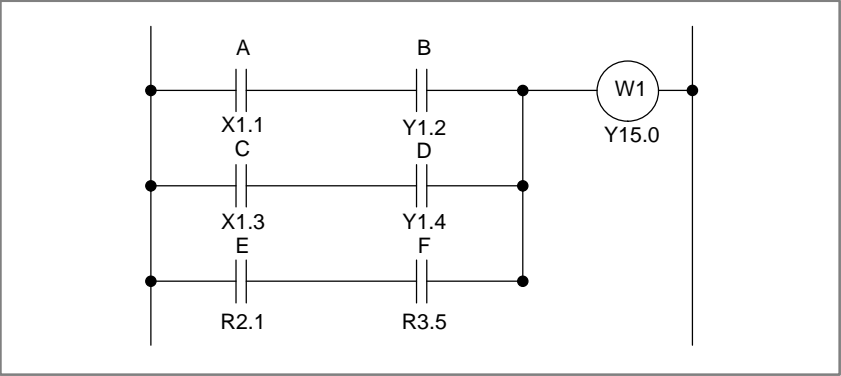

Fig. 4.1.9 Ladder diagram
(1) Format
- (2) Stacks the intermediate results of a logical operations. After shifting the stack register left one bit, sets a signal at a specified address to ST0.
- (3) Is used when the signal to be specified is contact A (—|—).
- (4) See Fig. 4.1.9 and Table 4.1.9 for an example of using the RD.STK instruction.
Table 4.1.9 Coding for Fig. 4.1.9
- (2) Induces a logical sum from the operation results in ST0 and in ST1, sets the result in ST1, and shifts the stack register right one bit.
- (3) See Fig. 4.1.9 and Table 4.1.9 or Fig. 4.1.10 and Table 4.1.10 for examples of using the OR. STK instruction.